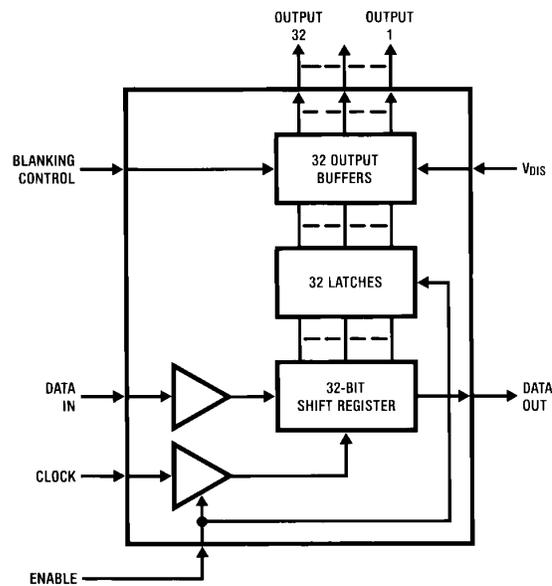

FIGURE 1
This product is specifically designed to drive multiplexed or non-multiplexed high voltage alphanumeric or dot matrix vacuum fluorescent (VF) displays. Character generation is done externally in the microprocessor, with a serial data path to the display driver. The MM58241 uses three signals, DATA IN, CLOCK and ENABLE, where ENABLE acts as an external load signal. Display blanking can be achieved by means of the BLANKING CONTROL input, and a logic '1' will turn off all sections of the display. A block diagram of the MM58241 is shown in Figure 1.